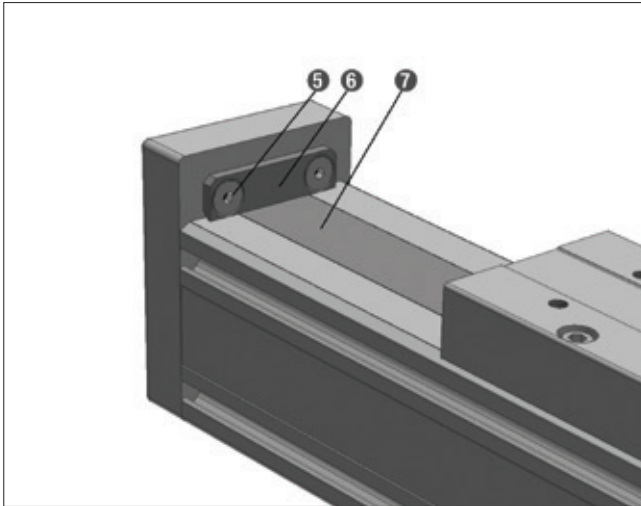
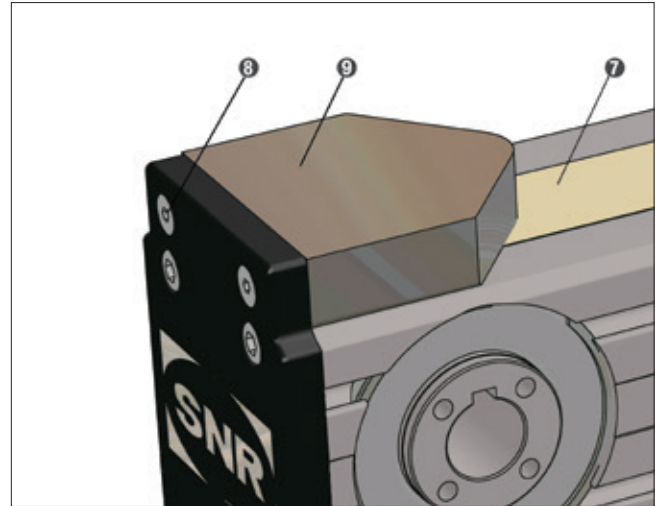

Figure 4.13 __ Cover strip fastening for screw drive axis
Figure 4.14 __ Cover strip fastening for toothed belt axis
2. For Linear Axis with screw drive (Figure 4.13), disassemble the screws of the cover strip clamping **3** and **5** and remove the clamping plates **4** and **6**. For Linear Axis with toothed belt drive (Figure 4.14), disassemble the fastening screws of the end position dampers **8** and remove the end position dampers **9**.